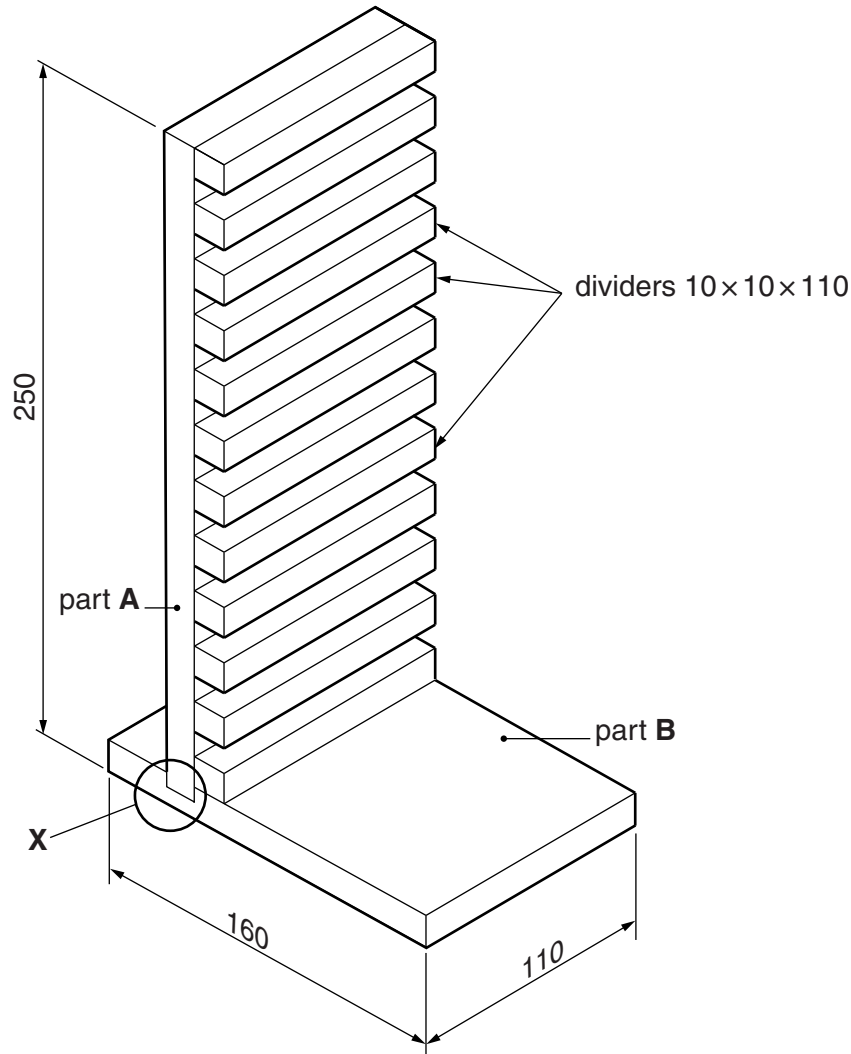

Fig. 1
- 1 Fig. 1 shows a CD rack which is to be made in a school workshop.